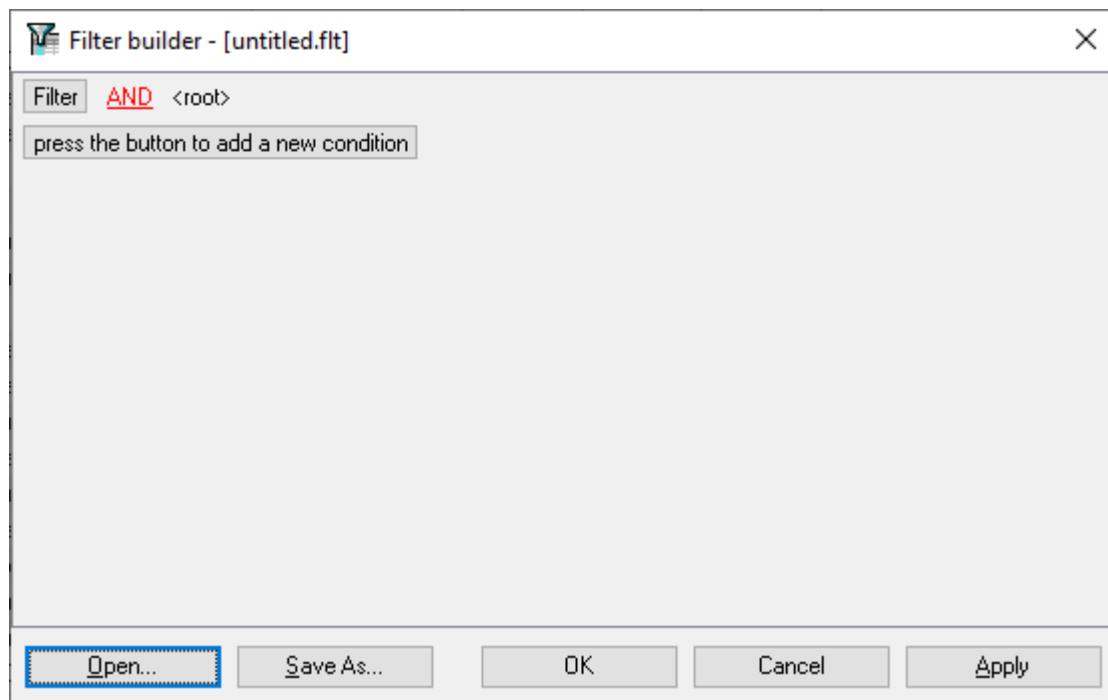

Fig. 26 Filter
14. **Filter** - open the dialog box where you can configure filtering the data (fig. 26)